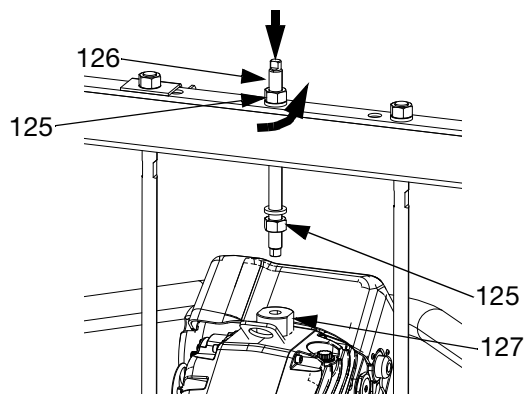

FIG. 28: 55 Gallon Platen
Loosen nut (125) below crossbar. Use wrench to hold lift ring adapter (127) in place and loosen threaded rod (126) above crossbar with another wrench. See FIG. 28.